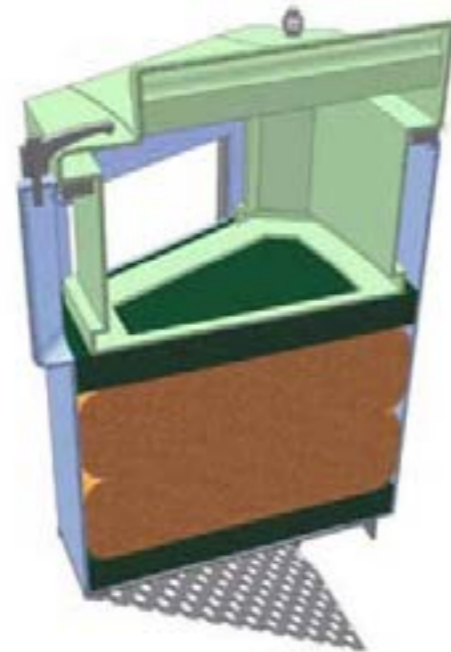

Figure 6: Cut-away view of the Filter Module
3. Open the Filter Modules by turning the three cam latches on the front and sides of the module. Remove the lid (1) to gain access to the Media Pack, refer Figure 6.
- A top layer of green (2) Flow-Distributing Media.
- Two (2) Media Bags (3) equipped with nylon handles.
- A bottom layer of green (2) Flow-Distributing Media.